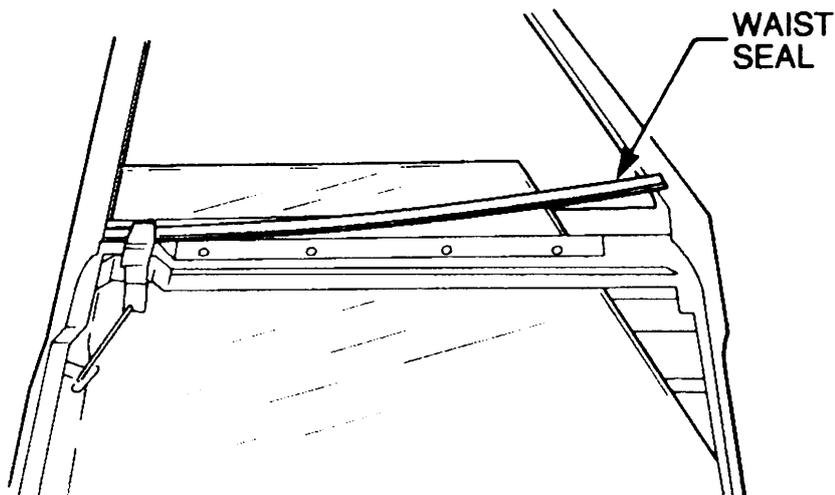

Figure 218 Window Glass Removal
- w. Remove the inner and outer waist seals (Figure 218).